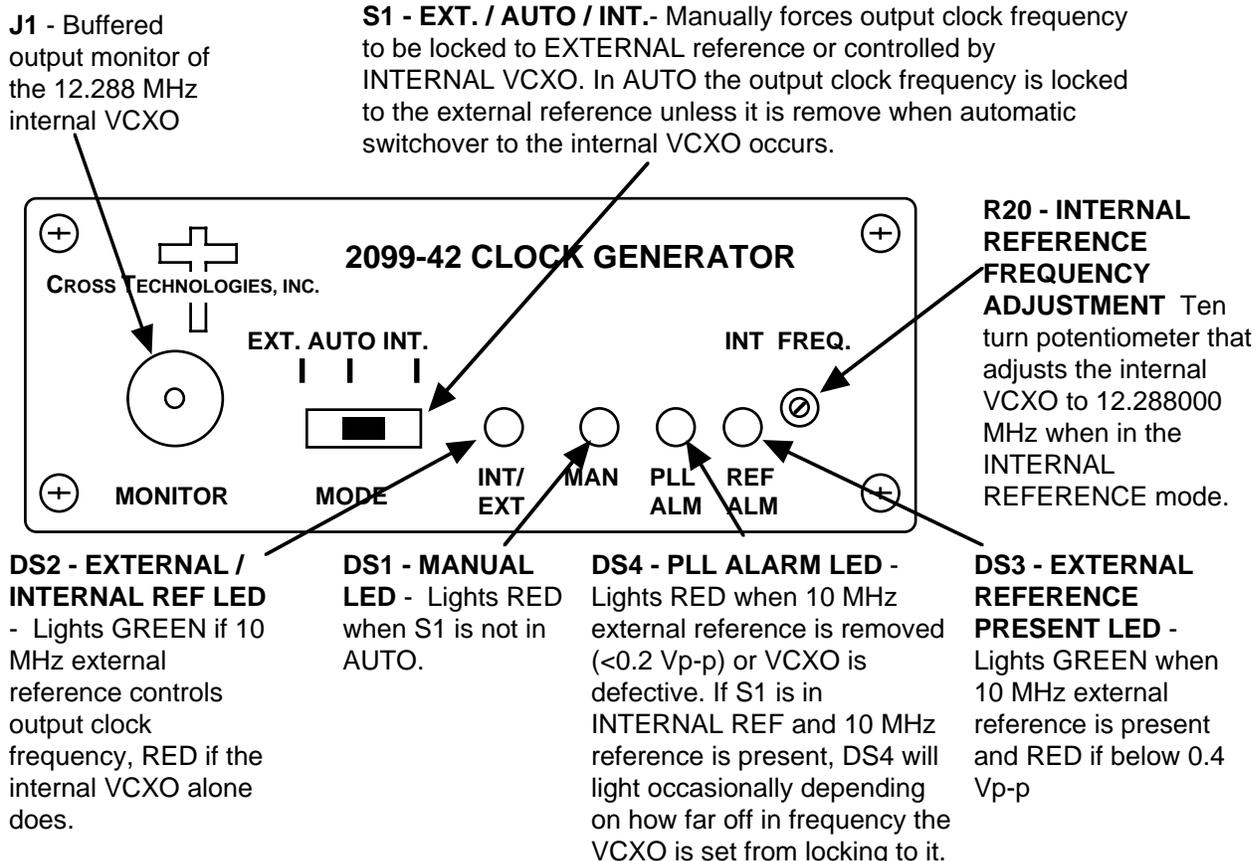

FIGURE 2.2 2099-42 Front Panel Controls and Indicators
2.2 Controls and Indicators - Figure 2.2 shows front panel controls and indicators.
- 4.) Be sure S1 is in the center (AUTO) position (Figure 2.2)
- 5.) Be sure DS1 and DS4 are off and DS2 and DS3 are green (Figure 2.2).
- 6.) If needed, R20 can be adjusted (Figure 2.2) to SLIGHTLY adjust the internal VCXO frequency with S1 in the INTERNAL REF position and monitoring TP1. ALWAYS be sure S1 is in AUTO (center) for normal operation.
2.5.2 Switch S1 (Figure 2.2) - S1 selects between Internal Ref / AUTO / External Ref and operates as follows:
External Reference - This is a manual over ride of the AUTO position which forces the 2099-42 to always control the internal VCXO by locking it to the external 10 MHz reference. If in this position and the 10 MHz is removed, the PLL will lose lock and may force the internal VCXO to the high or low rail which causes it to be up to plus or minus 1.2 kHz from center frequency. No auto switch over to internal control of the VCXO will occur in this mode. The front panel potentiometer, R20 does NOT control the VCXO in this mode. Normal operation in this mode will have DS1 red, DS2 and DS3 green, and DS4 off (Figure 2.2).
AUTO - This forces the 2099-42 to always control the internal VCXO by locking it to the external 10 MHz reference if it is present. If in this position and the 10 MHz is removed, the PLL will lose lock and will force the internal VCXO to have the frequency set by front panel potentiometer, R20. R20 DOES control the VCXO in this mode if it has automatically switched to Internal. Normal operation in this mode will have DS1 and DS4 off and DS2 and DS3 green (Figure 2.2).
Internal Reference - This is a manual over ride of the AUTO position which forces the 2099-42 to always control the internal VCXO by front panel potentiometer, R20. R20 is a ten turn potentiometer which can control the VCXO by up to plus or minus 300 Hz from center frequency. If the 10 MHz external reference is present, the PLL Alarm LED, DS4 does not generally light in this mode but will flash occasionally, the rate of which is a rough indication of the offset of the VCXO from the reference frequency. The slower the rate of the flash, the closer the VCXO frequency is to the 10 MHz reference. No auto switch over to internal control of the VCXO will occur in this mode. As mentioned previously, the front panel potentiometer, R20 DOES control the VCXO in this mode. Normal operation in this mode will have DS1 red, DS2 red, DS3 green, and DS4 off and occasionally red for short flashes (Figure 2.2).